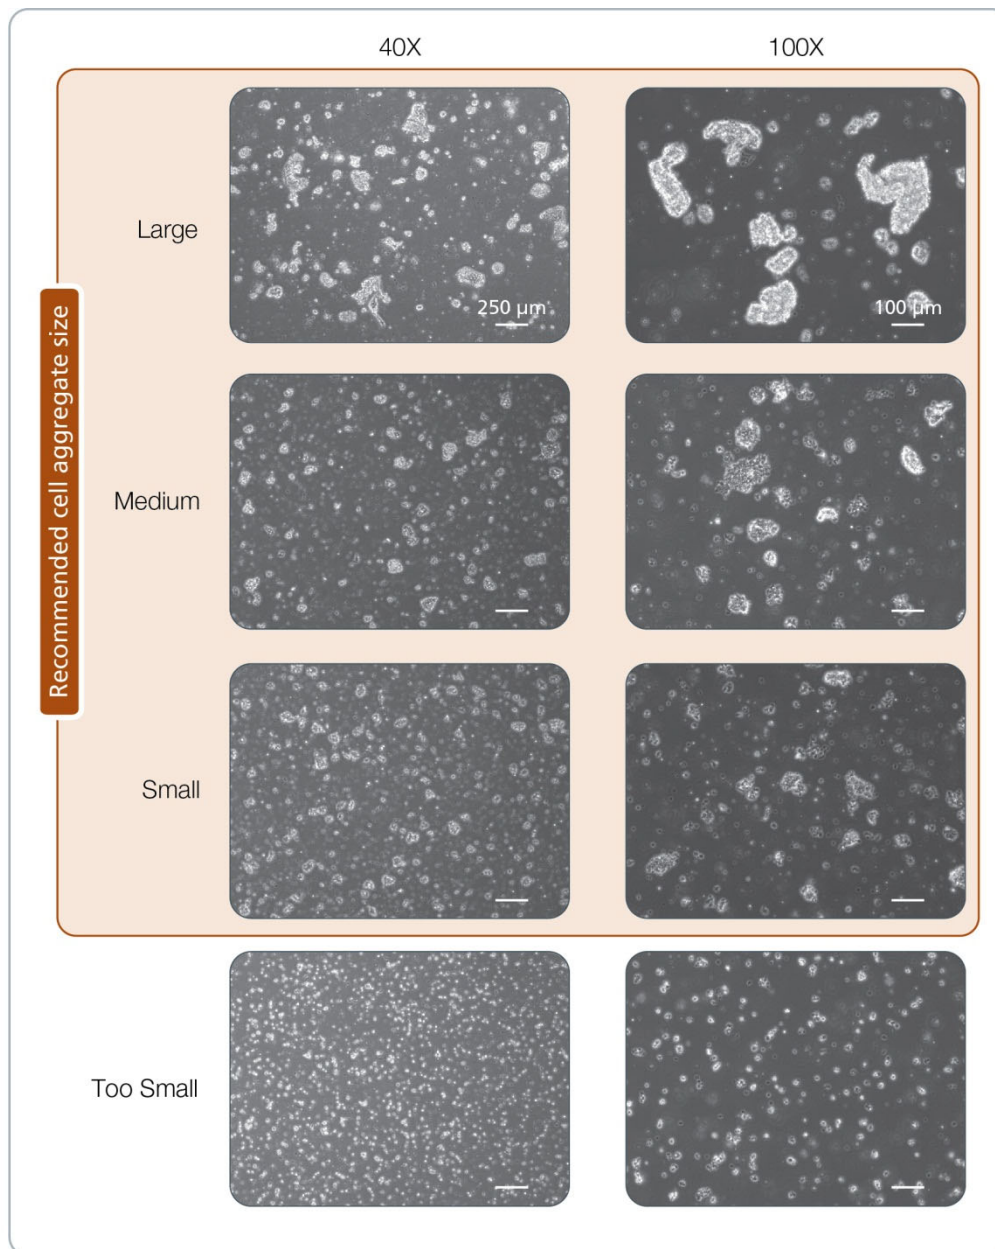

Figure 13. Acceptable Size Range for Cell Aggregates at the Time of Plating
*Number can be adjusted to obtain desired cell aggregate size (section 6.1). Refer to Figure 13 for examples of appropriate cell aggregate sizes and adjust procedure as necessary to achieve desired results.
Culturing human ES and iPS cells in TeSR™2 allows some flexibility in the passaging schedule, as cultures can be passaged between 4 and 7 days after plating in TeSR™2. The next time the cells are ready for passaging depends on the size and density of the plated cell aggregates. For example, if large cell aggregates are plated at a high density, the next passaging time will most likely occur on Day 4 or 5, whereas if small cell aggregates are plated at a low density, the next passaging will most likely occur on Day 6 or 7 (Table 5). For representative images of large and small cell aggregates, see Figure 13. Regardless of the plating density and cell aggregate size used, the majority of colonies should be densely packed and multi-layered in the center when ready for passage.
*For representative images see Figure 13.
At the time of plating, the desired cell aggregate size can be obtained by adjusting the number of times the cell aggregate suspension is pipetted up and down (Table 4). Refer to Figure 13 for a recommended range of cell aggregate sizes. Do not generate single cells.